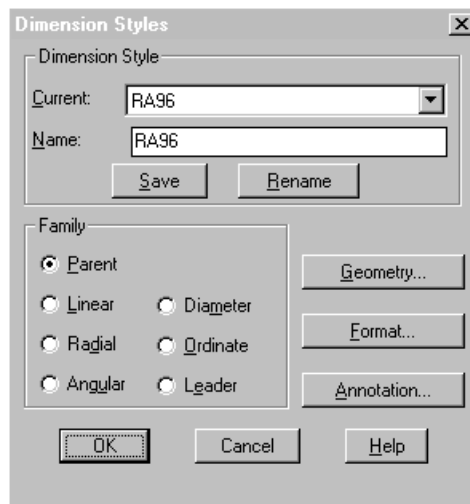

Figure 2-116
1. For example, say you wanted to change the RA96 dimension style so that it used arrows rather than architectural ticks. You would just go up to the Dimension pull-down menu and select **Styles**. The Dimension Styles dialog, shown in Figure 2-116, appears. The current style for this drawing should be RA96.